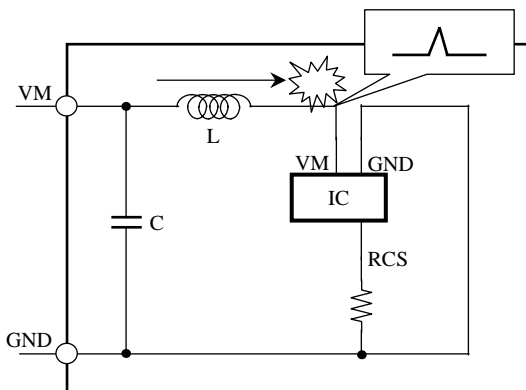

Fig. 4 Depreciated PCB
A high current flows into the line between the VM1 (Pin 1) and VM2 (Pin 15) pins. Therefore, noise is generated with ease at the time of switching due to the inductance (L) of the line, which may result in the malfunctioning or destruction of the IC. (Fig. 4)